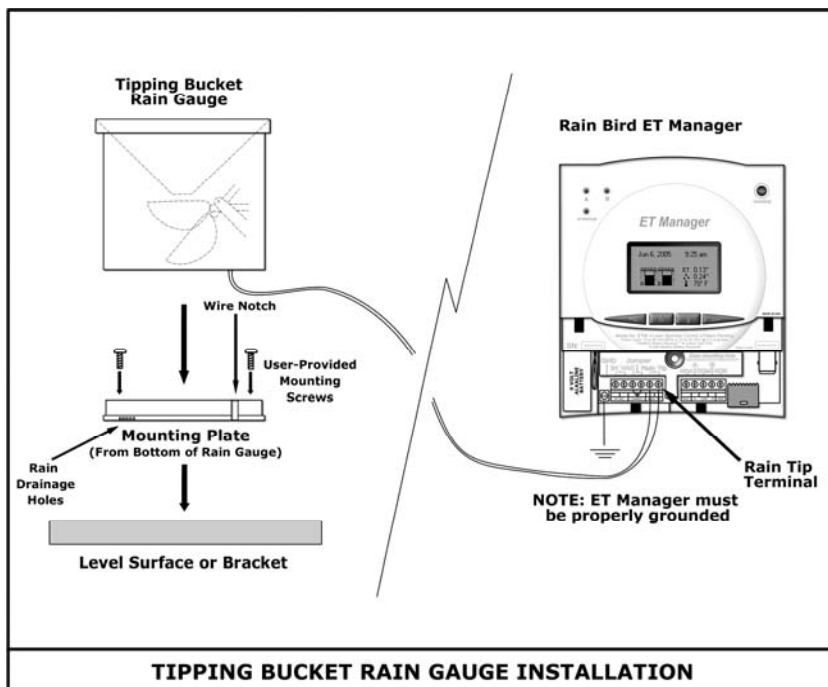

Figure 8. Tipping Bucket Rain Gauge Installation
4. Reattach rain gauge to mounting plate, verify the spoon orientation is over the drain holes (see Figure 8).